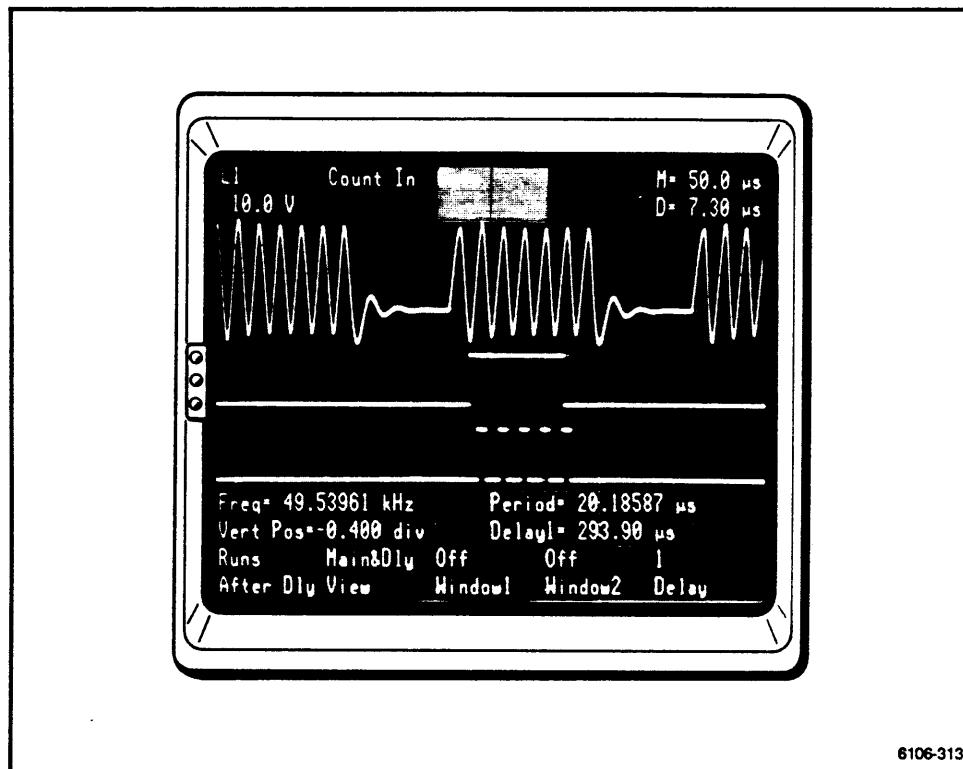

Figure 2-114. Gated frequency display.
6. The gated frequency measurement will appear toward the lower left in the display. (See Fig. 2-114.)